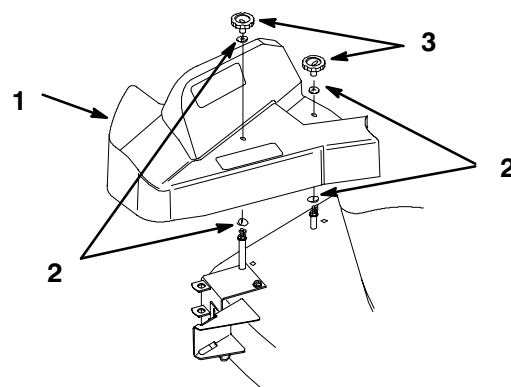

Figure 26
- Remove the blower belt cover by removing (2) knobs and (4) washers (Fig. 26).